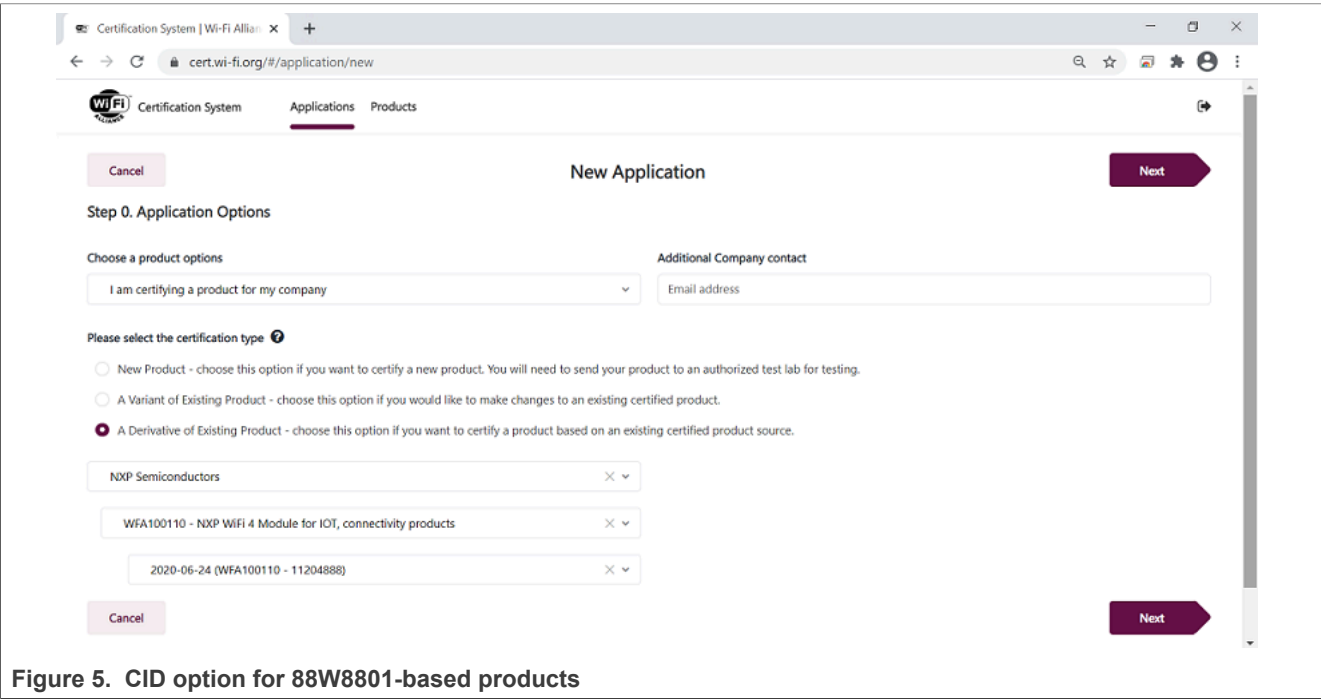
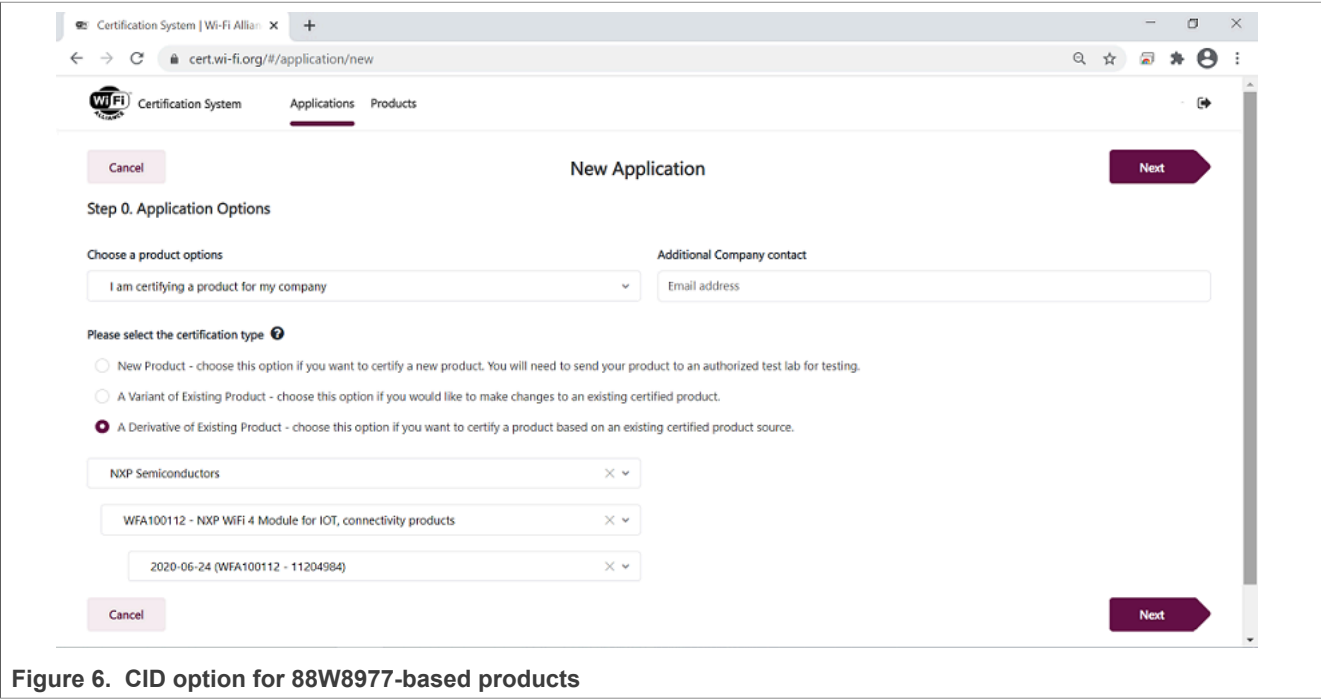

Figure 5. CID option for 88W8801-based products
Figure 6. CID option for 88W8977-based products
- In the second drop-down list, select the CID for a product based on a Wi-Fi component. Figure 5 shows the list of CIDs based on 88W8801 product, and Figure 6 shows the list of CIDs based on 88W8977 product.